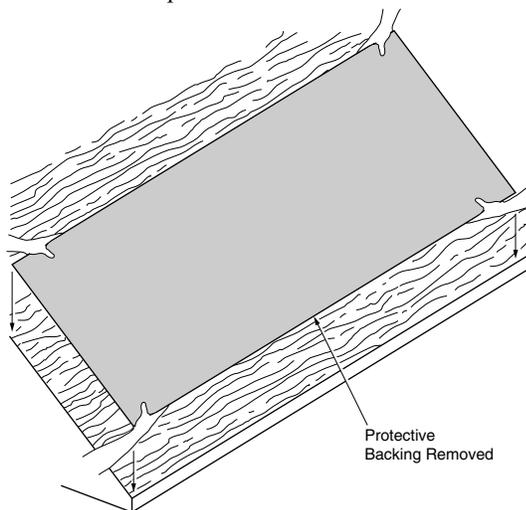

Figure 9-7: Application using the "Fly-In" Method.
4. Drop or "fly" the sheet into place, using great care to assure correct placement (Figure 9-7).